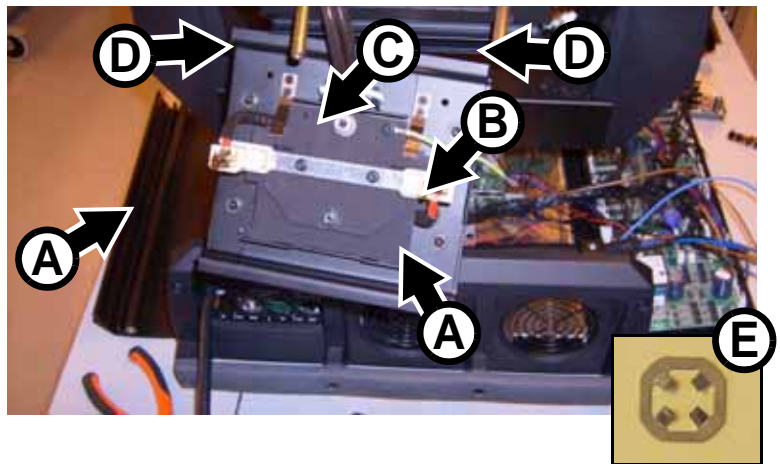

Figure 58
63. See Figure 58. Clamp the lamp leads into the lampholder terminals **A**. Fasten the lampholder ground lead **B** to the head re-using the original screw in the same hole as the original lead. Pull the lamp leads towards the ignitor to eliminate any slack in the lampholder housing, but make sure they are not kinked or under tension. Clamp the lamp leads in place by applying the push-on locking washer **E** supplied with the Upgrade Kit (P/N 08074402). Install the lampholder/rear cover assembly on its mounting pillars **D** in the back of the head, re-using the original screws. Apply Loctite 243 on their threads before tightening.